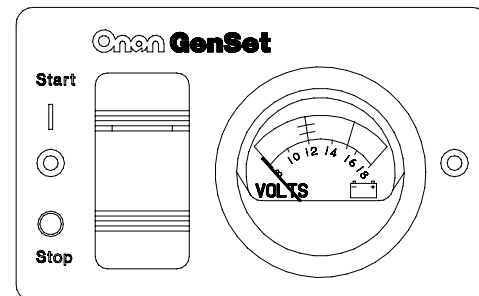

FIGURE 5-6. REMOTE SWITCH / DC VOLTMETER
- Remote switch / status lamp and DC voltmeter (Figure 5-6).